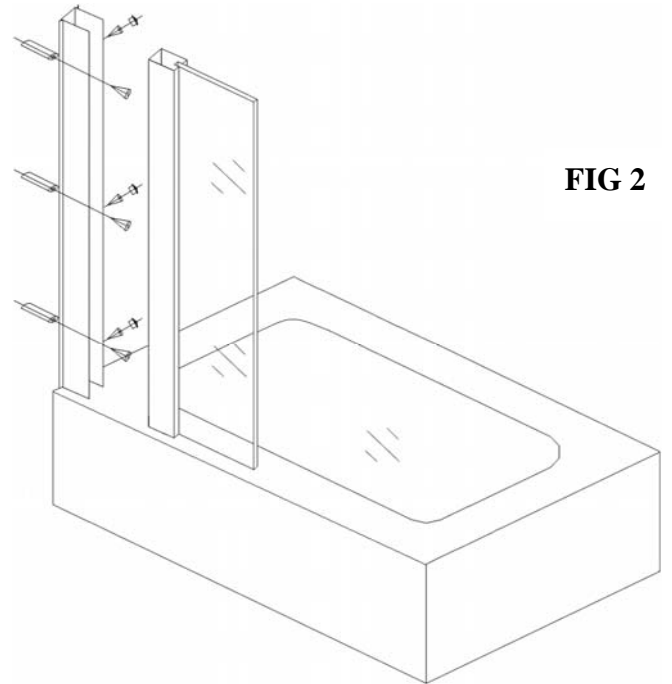

FIG 2
2. Mark 3 holes, drill with 6mm masonry bit and fit wall plugs **BS6004**. Using the 3 Screws **BS4002**, fix wall profiles to wall. **Fig 2**.
5. Using the Screws **BS4004**, fix the hinge upright to the wall profile in 3 places. **Fig 2**.